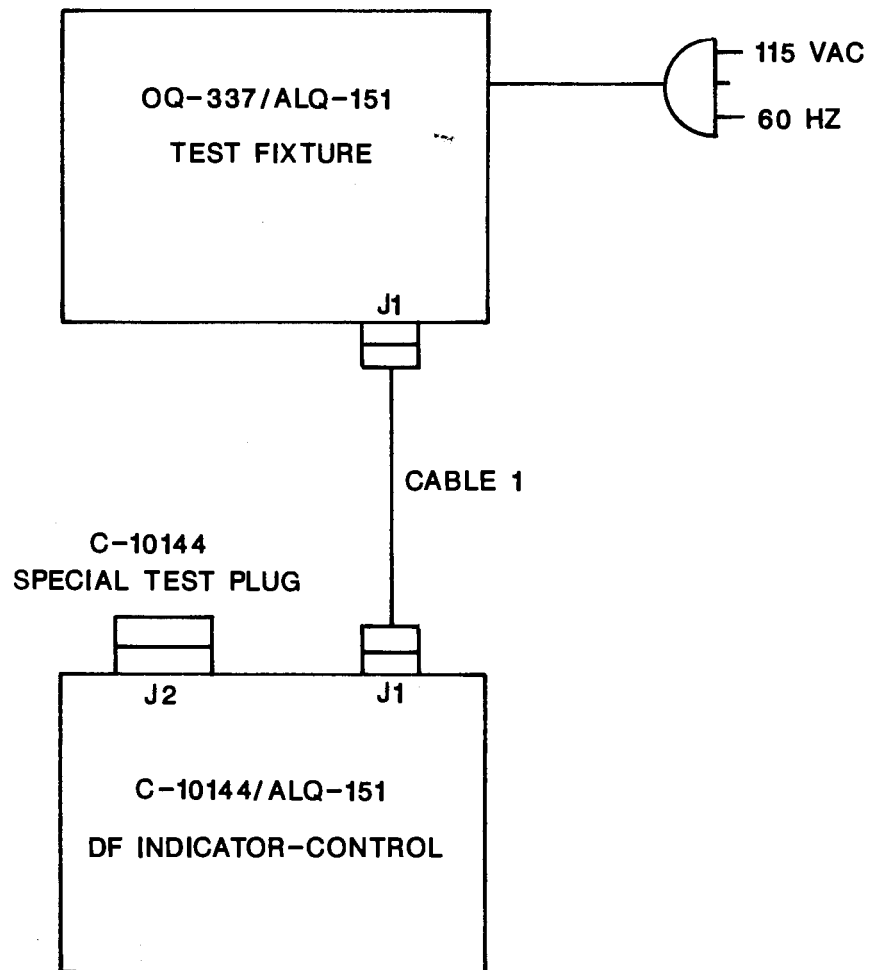
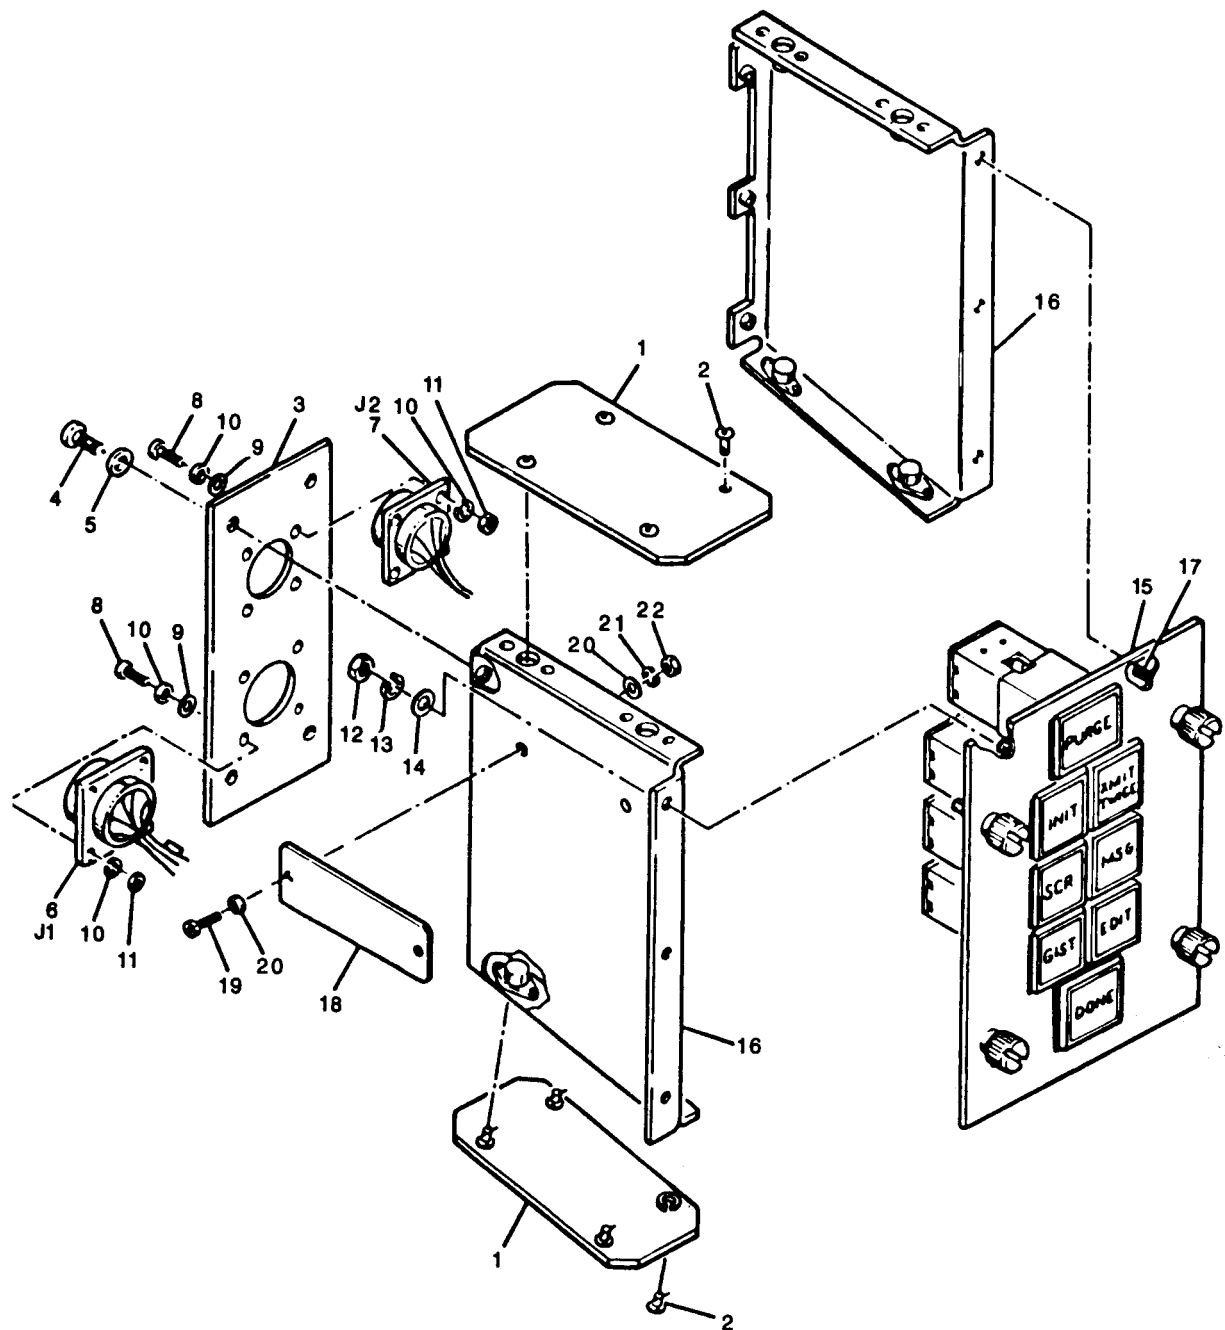

Figure 5-1. DF Control-Indicator Test Setup Diagram
Figure 5-2. DF Control-Indicator Component Location Diagram
This section contains troubleshooting procedures for the DF control-indicator at general support level of maintenance. Also included are a test setup diagram (figure 5-1) and instructions required to prepare the unit for troubleshooting. Troubleshooting procedures contained in this section provided an aid in locating faults. To support troubleshooting, functional descriptions of the circuits in the unit are described in chapter 3. A schematic diagram is depicted in figure FO-1 and component location is provided in figure 5-2.
To prepare the DF control-indicator for troubleshooting, refer to figure 5-1 and proceed as follows:
This section contains inspection, cleaning, removal, replacement, and repair procedures authorized by the maintenance allocation chart in appendix B for the general support maintenance level. Removal procedures are presented in a logical sequence to completely disassemble the unit. Disassemble the unit only to the extent necessary to perform a particular test or repair. Refer to figure 5-2 for component location. Once the unit is disassembled to the extent required, repair the unit in accordance with paragraph 5-11 and replace all assemblies previously removed. With the repaired unit completely assembled, verify proper operation by performing the tests in section V.
a. Top and Bottom Cover Removal and Replacement. To remove top or bottom cover (1) (figure 5-2) of the unit, loosen the four fasteners (2) securing covers and remove covers. To replace covers, position the covers over the top or bottom of the unit and secure to the unit with the four fasteners.
b. Rear Panel Removal and Replacement. To remove the rear panels (3) from the unit, proceed as follows:
- (1) Remove six screws (4) and washers (5) that secure rear panel to unit.
- (2) Remove from each, four screws (8), flat washers (9), lockwashers (10) and nuts (11) that secure connectors J1 and J2 (6 and 7), then remove rear panel.
- (3) To replace rear panel (3), secure connectors J1 and J2 to panel with four screws (8), flat washers (9), lockwashers (10) and nuts (11), then secure rear panel to unit with six screws (4) and washers (5) .